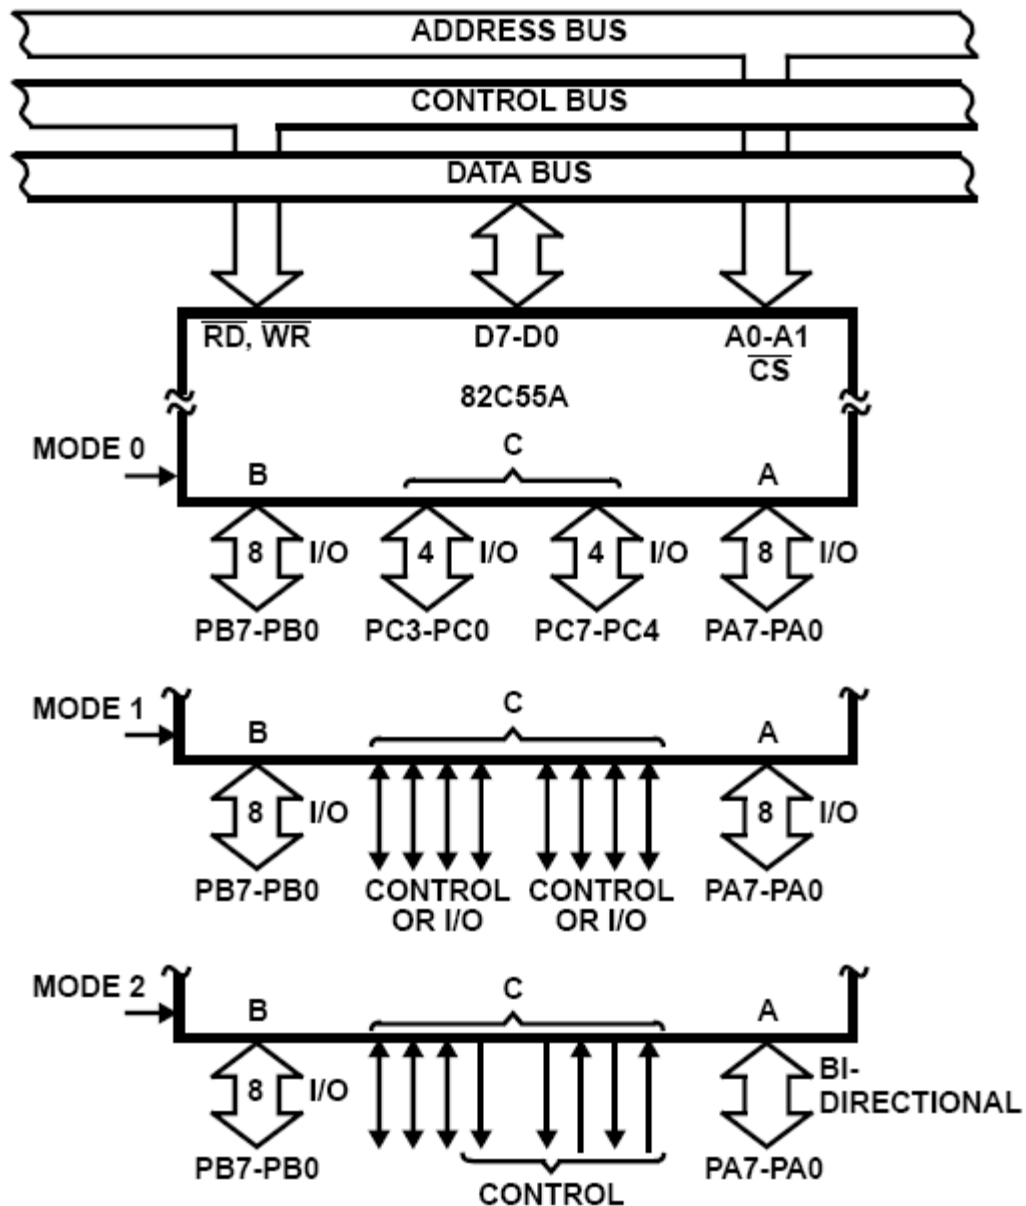

Figure 6: The three basic modes of the 8255.
- The 8255A can be programmed in three modes (0, 1, 2) as shown in Figure 6: